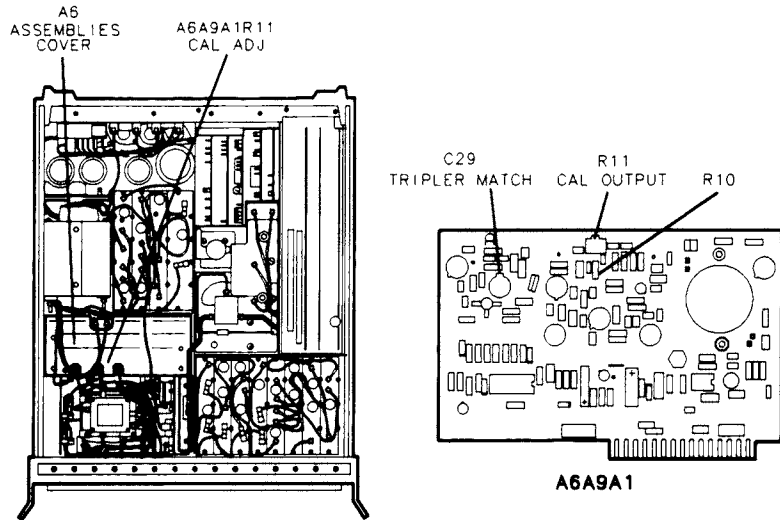

Figure 3-85. Location of CAL OUTPUT Adjustment
A6A9A1R11 CAL OUTPUT should have at least 2.0 dB of adjustment range, centered at a front-panel CAL OUTPUT signal level of -10.0 dBm. If A6A9A1R11 CAL OUTPUT does not have sufficient range to adjust the CAL OUTPUT signal level to -9.0 dBm, decrease the value of factory-select component A6A9A1R10; conversely, increase the value of A6A9A1R10 if A6A9A1R11 CAL OUTPUT does not have sufficient range to adjust the CAL OUTPUT signal level to -11.0 dBm. Select the value of factoryselect component A6A9A1R10 to center the range of A6A9A1R11 CAL OUTPUT as close as possible to the range of -9.0 dBm to -11.0 dBm. Refer to Table 3-3 for the acceptable range of values for A6A9A1R10, and Table 3-4 for HP part numbers. Refer to Figure 3-85 for the location of A6A9A1R10.
- b. Adjust A6A9A1C29 TRIPLER MATCH only as much as required to lower the level of the highest harmonic to greater than 25 dB down relative to the peak of the 100 MHz CAL OUTPUT signal. Refer to Figure 3-85 for the location of A6A9A1C29 TRIPLER MATCH.